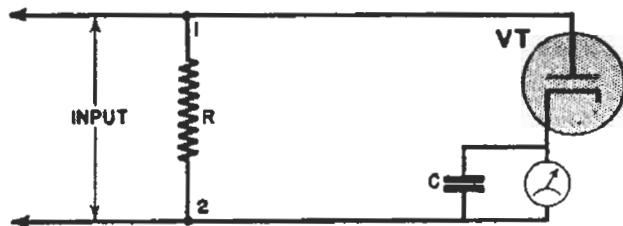

FIG. 12. A diode can be used to rectify a.c.
**Vacuum Tubes.** Any diode tube will rectify a.c., as current can pass through the tube only when the plate is positive with respect to the cathode of the tube. In the circuit shown in Fig. 12, the diode tube *VT* passes current only when terminal 1 is positive with respect to terminal 2. The resulting half-wave pulses have an average value which is about .3 of the a.c. peak. This average value will produce a deflection on a D'Arsonval meter.
The condenser *C* in Fig. 12 is used to by-pass the high-frequency pulsations around the meter. The meter movement is a coil and so has inductance. If not by-passed, the inductive reactance would be added to the meter resistance and might both upset the circuit and make it non-linear with respect to frequency. The condenser also serves to smooth out the pulsating current, bringing the peak value down and raising the d.c. average. This not only gives a greater sensitivity, but also reduces the danger of high peak values damaging the meter.